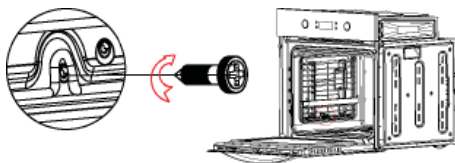

figure 1
1) As shown in figure 1, loosen the screw in order to fix rack support with a screwdriver.
As shown in figure 1, tighten the screw with a screwdriver, and then complete the assembly of the other side plate in the same way.